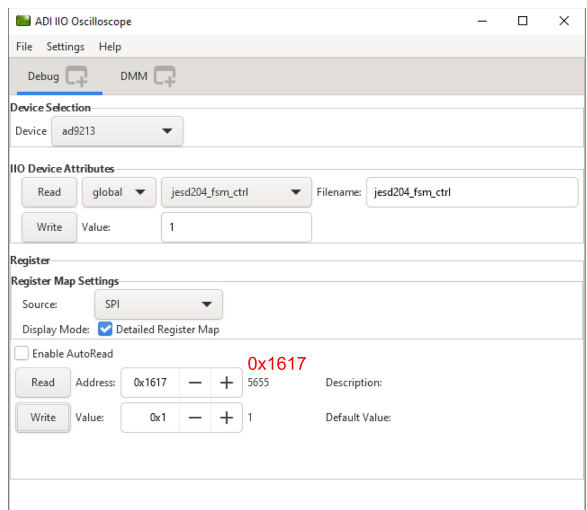

Figure 18. Register Settings for the AD9213 High-Speed Path Register 0x1617
- **ad9213** Register 0x1617 set to 0x01, as shown in Figure 18.